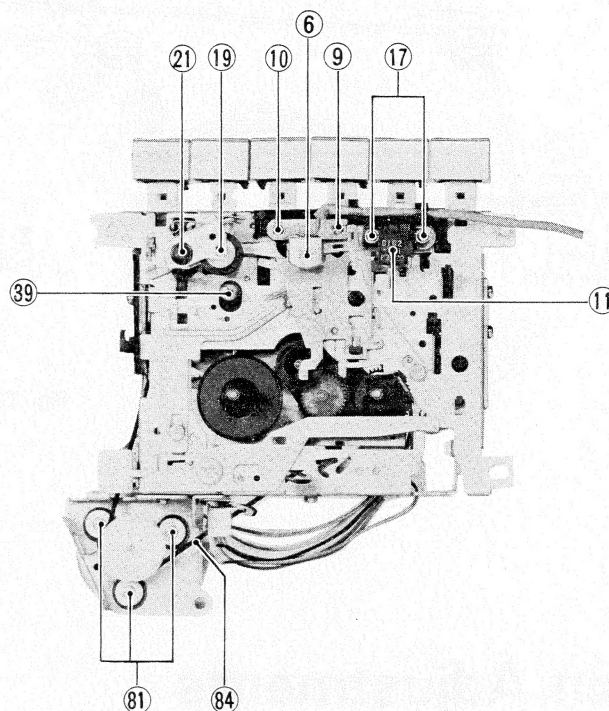

Fig. 10
Removing R/P head ⑥ (Fig. 10)
2. Unscrew screws ⑨ and ⑩ to remove the R/P head.
Removing erase head ⑪ (Fig. 10)
1. Unscrew two screws ⑰ to remove the erase head.
Removing pinch roller Ass'y ⑱ (Fig. 10)
1. Pull out stopper ⑳, then remove the pinch roller Ass'y together with the pinch roller spring.
Removing motor Ass'y ⑧⑤ (Fig. 10 and 11)
1. Disengage main belt ⑧④.
2. Remove three screws ⑧①.
Removing flywheel Ass'y ③⑦ (Fig. 10 and 11)
1. Unscrew screws ④② and ①①⑧, then remove flywheel bracket ④①.
2. Disengage main belt ⑧④.
3. Pull out washers ③⑨, taking care not to lose them.